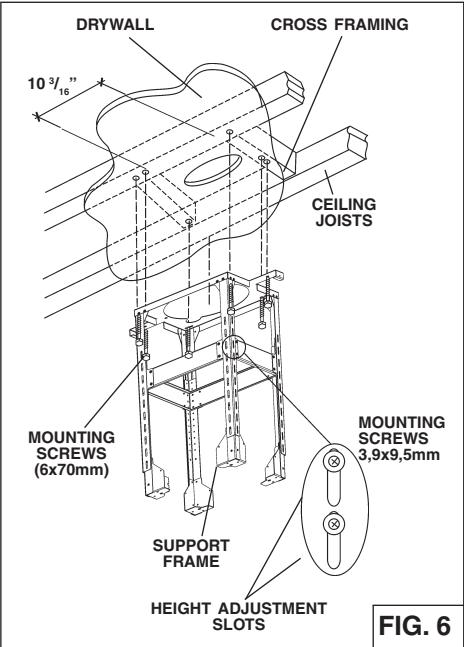

FIG. 6
- 3. Adjust the overall height using the chart below of the support frame. Loosen and re-tighten the 4 screws in the **height adjustment slots** as necessary. Insert 12 screws (3.9x9.5mm) located in the Hardware Package (Fig.6) make sure this a 4" min. overlap between the upper and lower support legs.
- 4. Secure the support frame to joists and cross framing with six (6) screws provided (6x70mm). Make sure screws are driven into center of joists and framing for maximum strength.